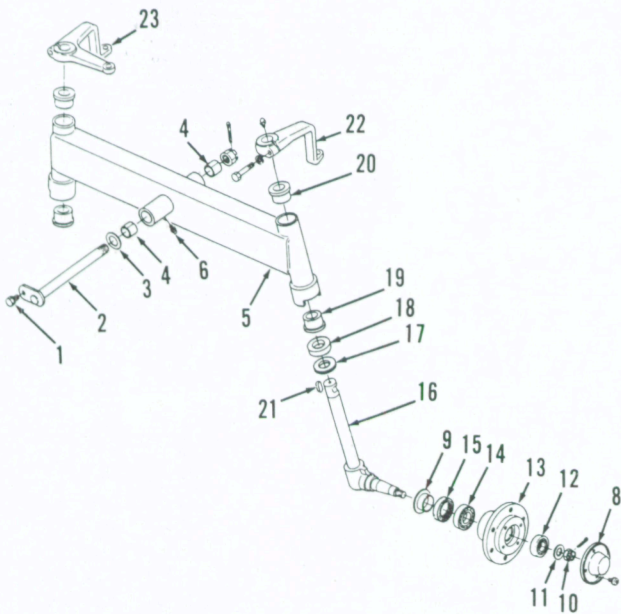
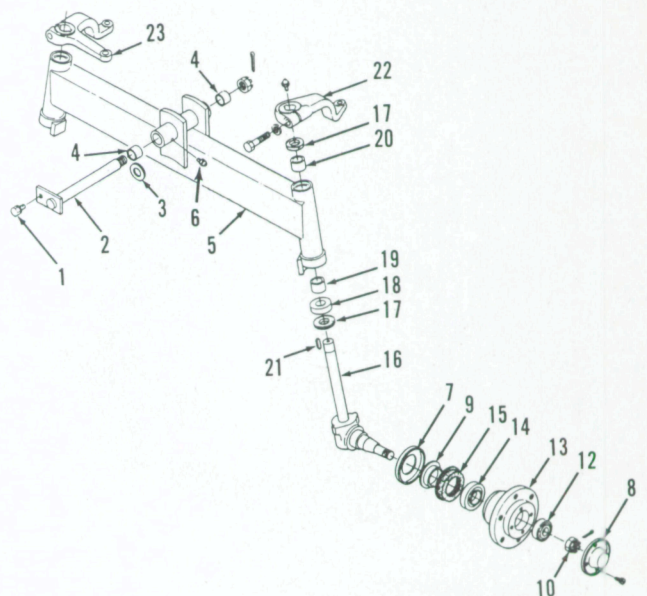

Fig. 4—Exploded view of axle and wheel hub of two-wheel-drive 1010 models.
Fig. 5—Exploded view of front axle used on two-wheel-drive 1020 models. Refer to Fig. 4 for legend except shield (7).
**1. WHEELS AND BEARINGS.** Front wheel bearings should be removed, cleaned, inspected and renewed or repacked every 400 hours of operation. To remove front wheel hub and bearings, raise and support the front axle extension, then unbolt and remove the tire and wheel assembly. Remove cap (8—Fig. 4 or Fig. 5), cotter pin, castellated nut (10), washer and cone of outer bearing (12). Slide the hub assembly from spindle axle shaft. Remove seal (15) and cone for inner bearing (14). Drive cups for bearings (12 and 14) from hub if renewal is required. Inner seal (9) can be removed from spindle (16) if renewal is required.
**2. TIE ROD AND TOE-IN.** A single tie rod connects the left and right steering arms (22 and 23—Fig. 4 or Fig. 5) which are attached to the steering spindles (16). The automotive type tie rod ends are not adjustable for wear and should be renewed if worn. Rod end threaded into right end of tie rod is used to adjust the distance between ends to establish front wheel toe-in. Recommended toe-in is 3-10 mm ( $\frac{1}{8}$ - $\frac{3}{8}$  in.) and should be measured between the wheel rims on centerline of axle, parallel to ground. Rotate wheels and re-measure to be sure that wheels are not bent, giving incorrect reading. Tighten rod end jam nut after toe-in is correctly set.
**3. SPINDLES, AXLE EXTENSIONS AND BUSHINGS.** To remove spindle (16—Fig. 4 or Fig. 5), first remove the wheel and hub. Disconnect rod end from steering arm (22 or 23), remove clamp screw from steering arm, then remove steering arm. Remove key (21) and seal (if used) from top of spindle, then lower spindle out of axle (5). Clean and inspect
**4. AXLE CENTER MEMBER, PIVOT PIN AND BUSHINGS.** To remove front axle assembly, first remove any front mounted equipment, guards, weights and weight frame. Raise front of tractor in such a way that it will not interfere with the removal of the axle. Remove the front wheels. Disconnect steering hoses if equipped with power steering and cover openings to prevent the entry of dirt. On all models, disconnect drag link from right steering arm. Support the axle with a suitable jack to prevent tipping while permitting the axle to be lowered and moved safely. Remove axle pivot pin (2—Fig. 4 or Fig. 5), carefully lower the axle assembly and roll axle from under tractor.